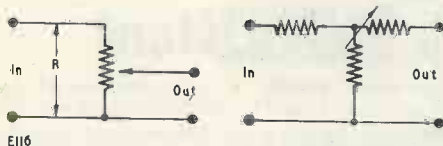
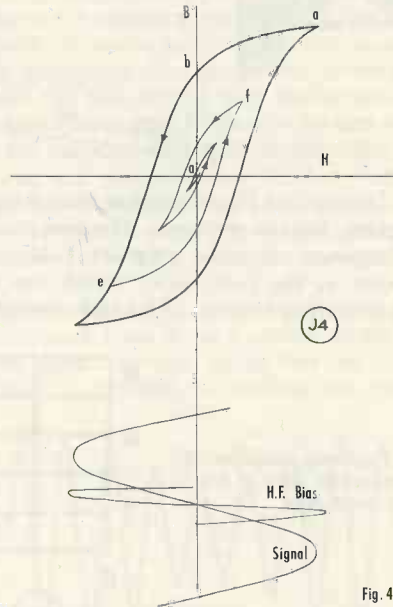

Fig. 3 (left). Continuously variable volume control (attenuator). Fig. 4. Constant impedance attenuator (T type)
Fig. 4
The continuously variable volume control is commonly used in tape recorders, simple valve microphone mixers, radio receivers, and amplifiers. Its uses as an attenuator are limited because the voltage ratio is proportional to the resistance ratio only when the load at the output terminal is very much greater than the total resistance (R) of the attenuator. (See Fig. 3.) Logarithmic and linear characteristics are used, the former being adopted mainly for volume control purposes. Although this type of control has certain disadvantages as an attenuator, its low cost and otherwise reasonably noiseless operation makes it suitable for even high fidelity amplifying equipment. It would, however, be quite unsuitable for high grade studio recording equipment, which would be more likely to employ a constant impedance device for fading and mixing as shown in Fig. 4.
We can find from the hysteresis loop what will happen to the tape when we feed a signal (Fig. 2 (b)) into the record head. Fig. 2 (c) shows the resulting magnetic field in the tape. The figures on Fig. 2 (b) represent intervals of time. If we begin at 2 we can read from the hysteresis loop that the field in the tape will be as shown in Fig. 2 (c). At time 3 the record signal has returned to zero, but the field in the tape has not. The curve which we would see on an oscilloscope connected to the playback head would, in fact, show a steeper front and the peak at 2 would be more pronounced. The pronounced peak is due, as is explained later, to the fact that the output from the head depends on the rate of change of the field, and this has the effect of increasing the distortion. As can be seen, Fig. 2 (c) bears little resemblance to our initial sine wave input to the head winding and represents very considerable distortion. D.C. biasing added to the signal input was first attempted to overcome this distortion. Fig. 3 shows that, with d.c. bias, the excursions of the input signal never take the field in the tape away from the top of the hysteresis loop, and that the resulting output, as shown on the right of Fig. 3, is low. Distortion is still present but the sine wave shape is now recognisable in the output. Although this biasing is an advance, the resulting distortion and low output signal make it a suitable method only for dictation machines. Much better results
Ob as shown in Fig. 4. Although the biasing frequency has been operating all this time let us now consider what is happening at the instant when the record head signal has become zero. As this particular portion of the tape is leaving the record head it is subjected to decreasing cycles of the bias
frequency. Shown on Fig. 4 is what then happens to the magnetic field in the tape. The first cycle of the bias frequency takes the magnetic field in the tape to point e, the next cycle, which has now reduced in amplitude because of the tape movement,